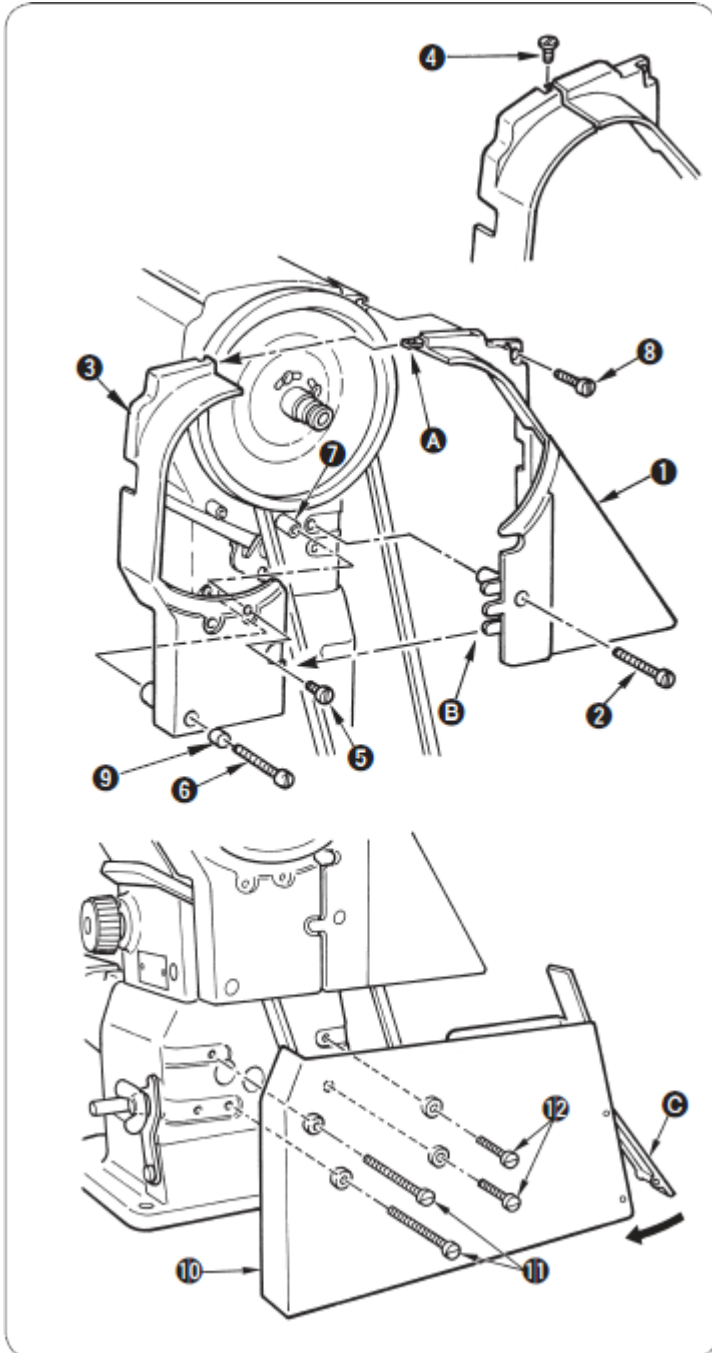

Figure 4
1. Attach belt cover stud (Fig 4, Item 7) to the screw hole in the arm.
2. Fix belt cover (right) (Fig 4, Item 1) on the arm with screws 2 and 8.
3. Fit belt cover (left) (Fig 4, Item 3) to notch A and B of the belt cover (right).
4. Fix belt cover (left) (Fig 4, Item 3) with screws 4, 5 and 6.
5. Fix belt cover, lower, (asm.) (Fig 4, Item 10) on the machine bed with setscrews 11 and 12.